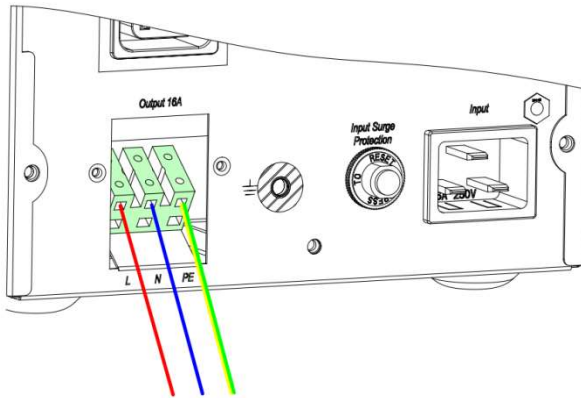

Fig.4-6 Output terminal of 3kVA
- 2). Use AWG14 wires for terminal wiring configuration as fig.4-6.